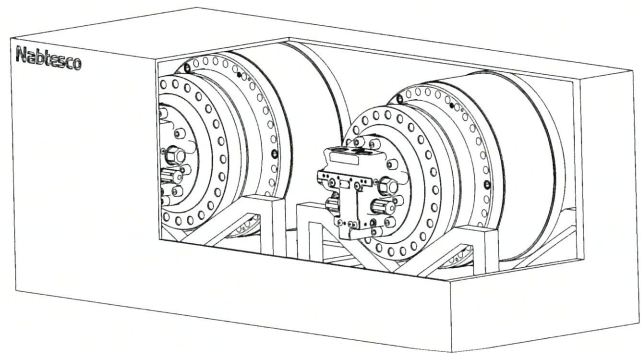

Fig. 3-1
- The illustrations (Fig.3-1) in this manual do not necessarily represent the individual packaging or the product. They change by the individual product or the confirmation notice. Also, for convenience, the illustrations are cut out of the packaging material so that the contents can be imaged.